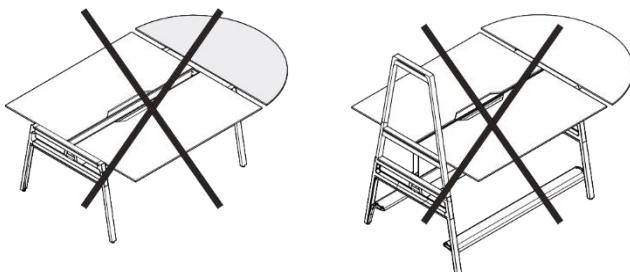

Figure 11 Semi-circular desktop extension, impermissible attachment
- Freestanding dual workstation, seating height, only one desktop extension (see Figure 11, left).
- Freestanding dual workstation, standing height (see Figure 11, right).